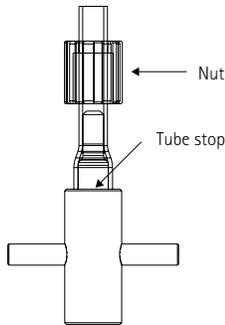

Figure 11
- Remove the PFA tubing from the heat source. Immediately push the flaring mandrel into the tubing until the end of the tubing reaches the tube stop (see Figure 11). Refer to Entegris' *Fluid Handling Products* catalog for available mandrel configurations.